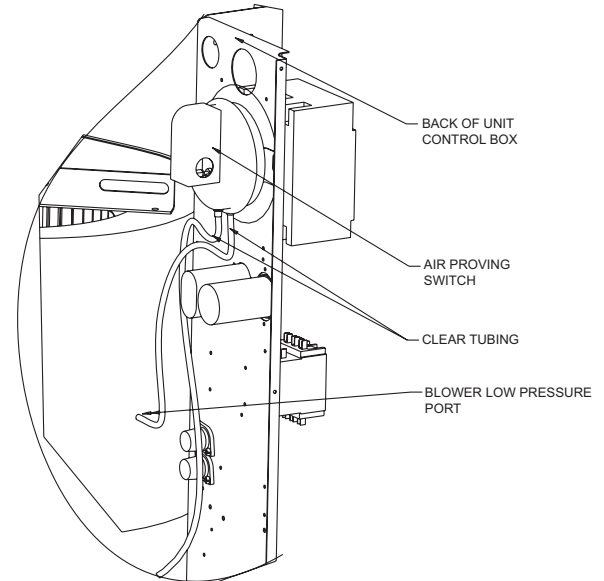
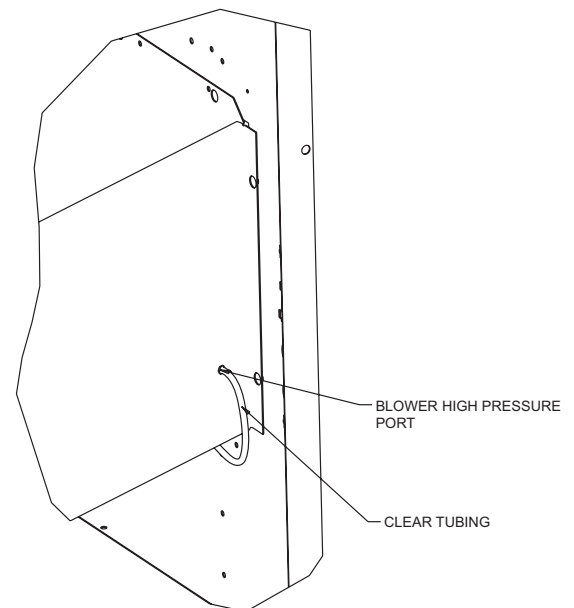

FIGURE 1: APS for 3-6 Ton Cabinets
FIGURE 2: APS Hole Placement for 3-6 Ton Cabinets
4. Approximately in the middle of the blower housing, drill a .152" diameter hole (#24 Drill) for the blower low pressure port tube connector. See Figure 1. On the positive side of the blower, drill a .152" diameter hole (#24 Drill) to locate the high pressure port tube connector. Place the hole approximately 3" from the bottom of the blower and 3" to the left of the partition panel. See Figure 2.
10. Figure 1 shows complete installation in the 3-6 Ton cabinets.